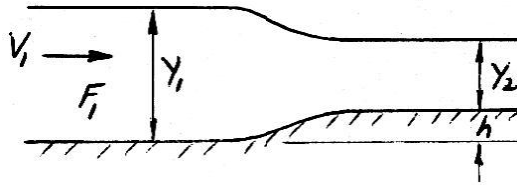

Figure P10.22
10.22 A smooth transition section connects two open channels of the same width, as shown in Figure P10.22. The water depth decreases so that the ratio of the downstream to upstream depths $Y_2/Y_1 = 1/4$. The upstream Froude number $F_1 = 0.3$.